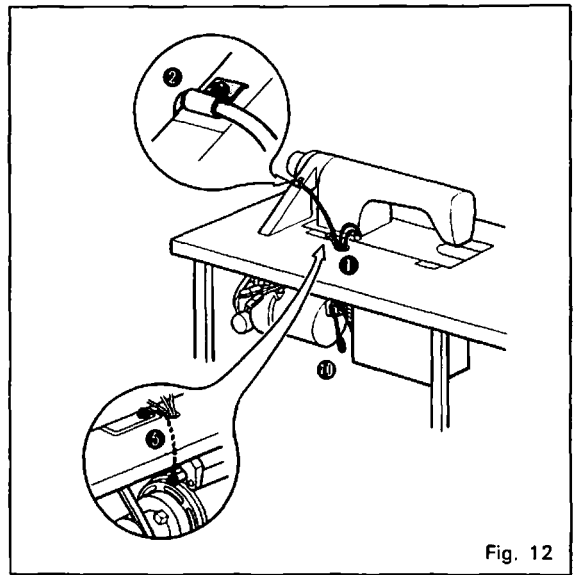

Fig. 12
**(3) Connection of wires**
- I) Put the plugs out of sewing machine head and synchronizer into the table top hole ①. The wire out of synchronizer should be fixed with wire supporter ② on the belt cover. Connect the plugs ④ comes from control box ③. (Figs. 12, 13)
- II) To prevent the static electricity, connect the earth wire ⑤ out of table hinge to the bracket of motor.